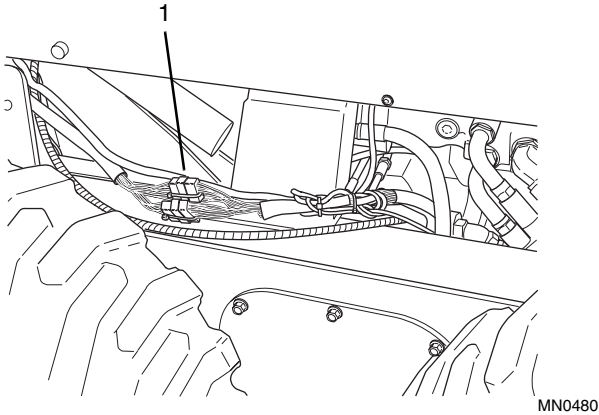

Figure 10-59 Wiring Harness Connectors
28. Disconnect three wiring harness connectors (Fig. 10-59, 1) attaching the Operator's Protective Structure and Engine/Chassis Wiring Harnesses.